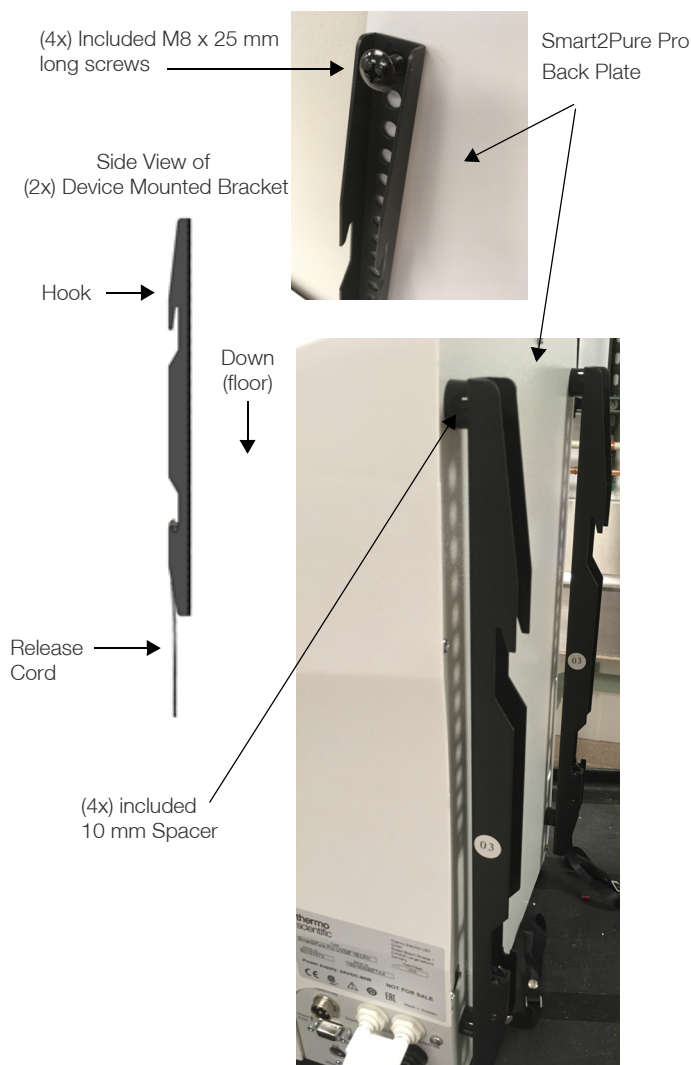

Figure 4. Smart2Pure Pro wall mount bars
1. Attach the 2 mounting BRACKETS to the back plate of the Smart2Pure Pro system, using the (4x) M8 x 25 mm long screws and 10 mm tall spacers (included in the kit). Attach as shown in the **Figure 4**).
4. To remove the unit from the wall, pull on both cords at the bottom of the mounting brackets (refer to **Figure 4**), and lift (2 people recommended) the unit slightly and pull away from wall bracket.